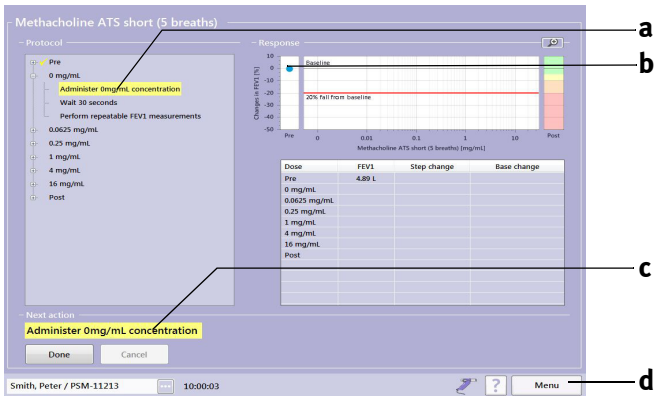

Fig. 3-25 Protocol screen
- Now proceed to the next test step (**c**, Fig. 3-25) and confirm with **Done**.